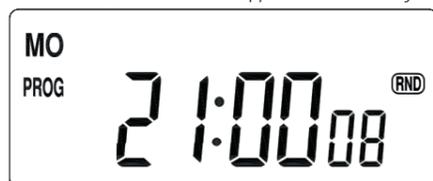

Fig. 4
1. Click **MODE** button to **RND** appear as show in Fig. 4.